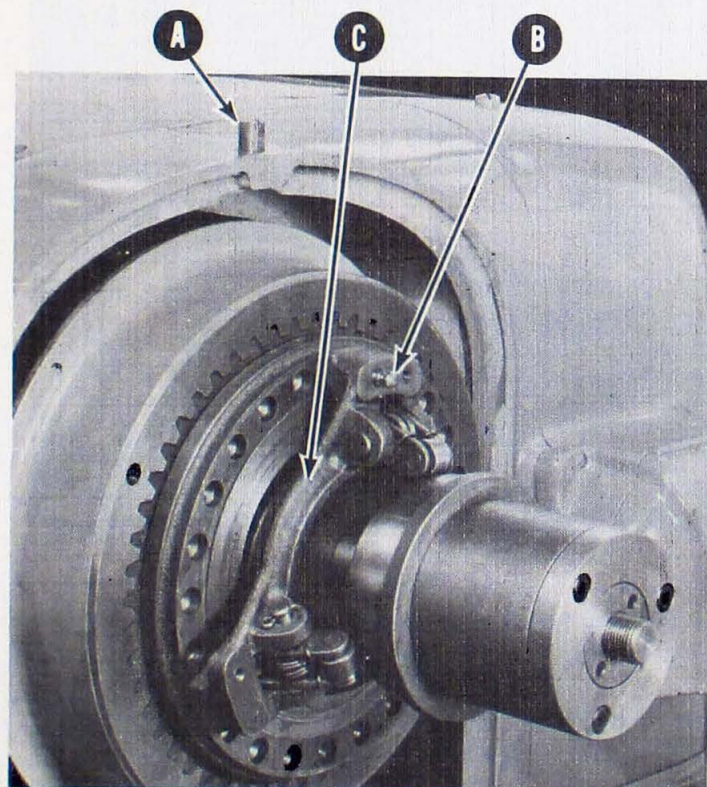

FIGURE 15
The spindle drive clutch is readily accessible by the removal of the cover at the left hand end of the headstock. This cover may be lifted off after taking out stud (A), Figure 15.